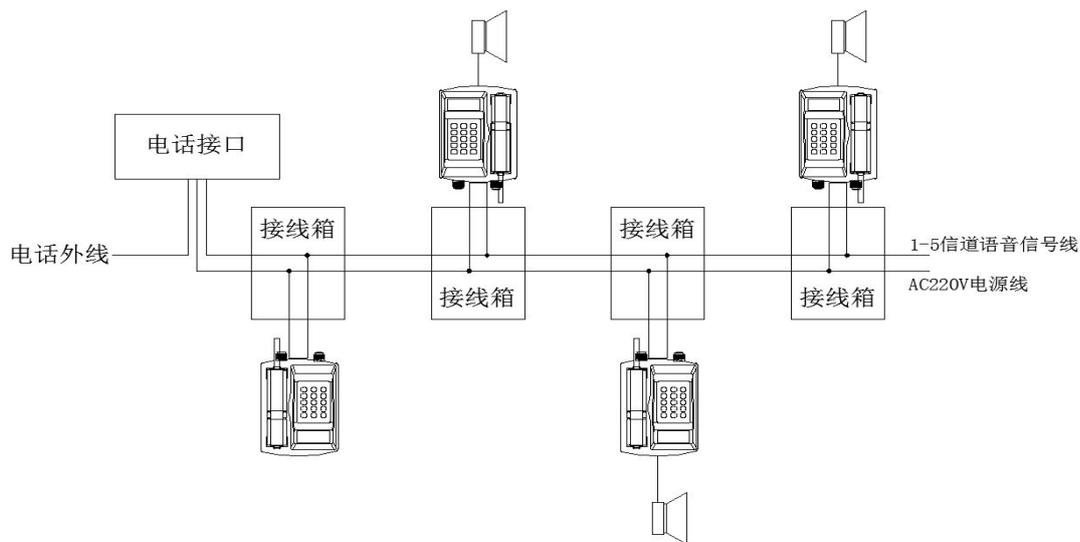

Figure 7
4.3.3 System connection diagram shown in Figure 7 .